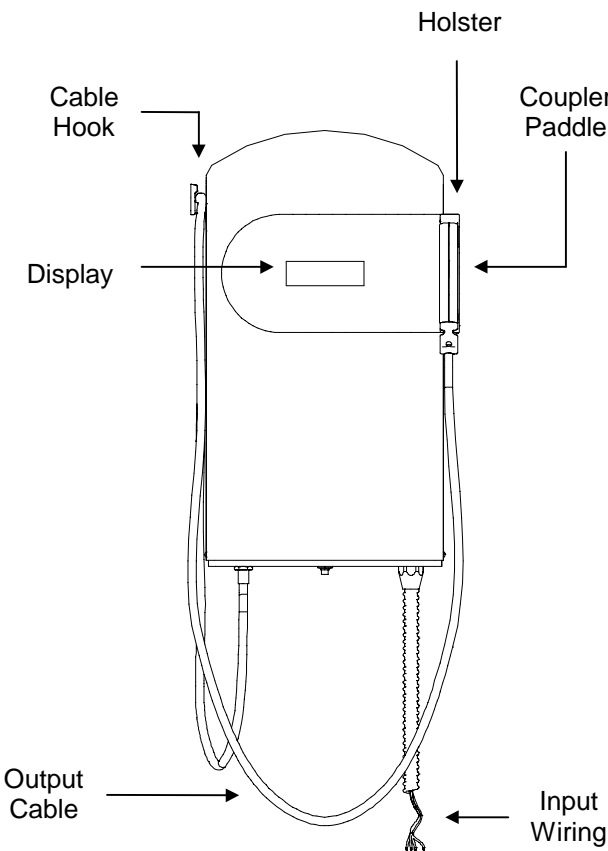

FIGURE 5 - FRONT VIEW
## Inspection (Refer to figures 5 & 6)
**System Test** (Refer to figures 5 & 6)